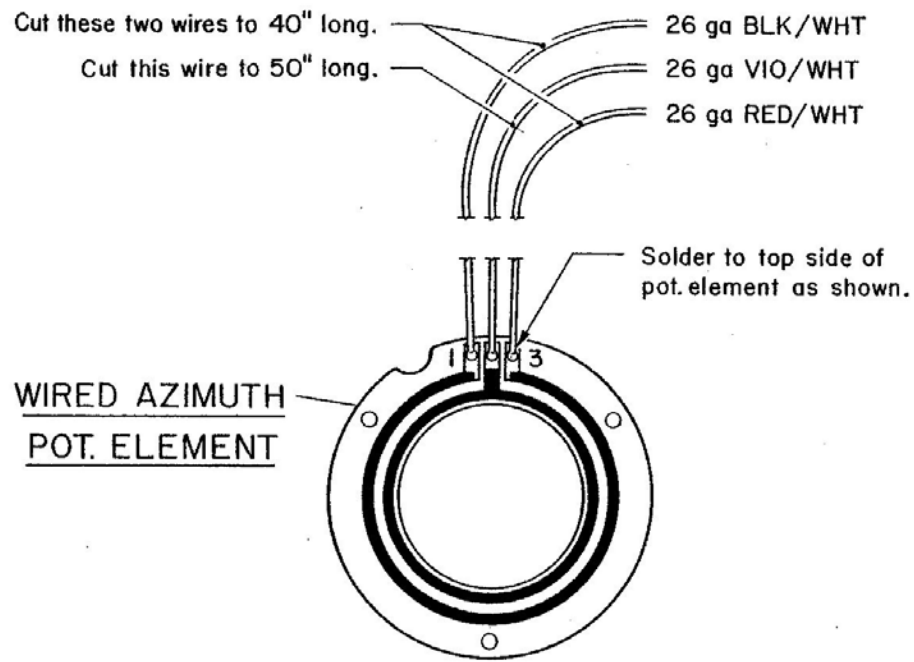

Figure 4-2 Wired azimuth actuator potentiometer element
12. Install seals (13),(38) in the seal groove of both actuator bodies (12),(21).
14. Install stationary vane (24) in cavity using dowel pins (18),(23). When slipping vane into actuator body be careful not to cut the Teflon glide ring on the sharp shoulder of the shaft or cavity.
15. Install O-ring (20) in seal groove of actuator body (12).
19. Bolt case halves together using fasteners (1). Torque bolts in an alternating pattern to 236 inch lbs. Make certain face of actuator is flat across two case halves.
21. Install tube fitting (28) in the upper half of the actuator body using Loctite 609. Install tube fittings (22) in lower half of the actuator body with the elbows pointing up. Do not tighten jam nuts at this time.
22. Wire azimuth potentiometer element (31) as shown in Figure 4-2.